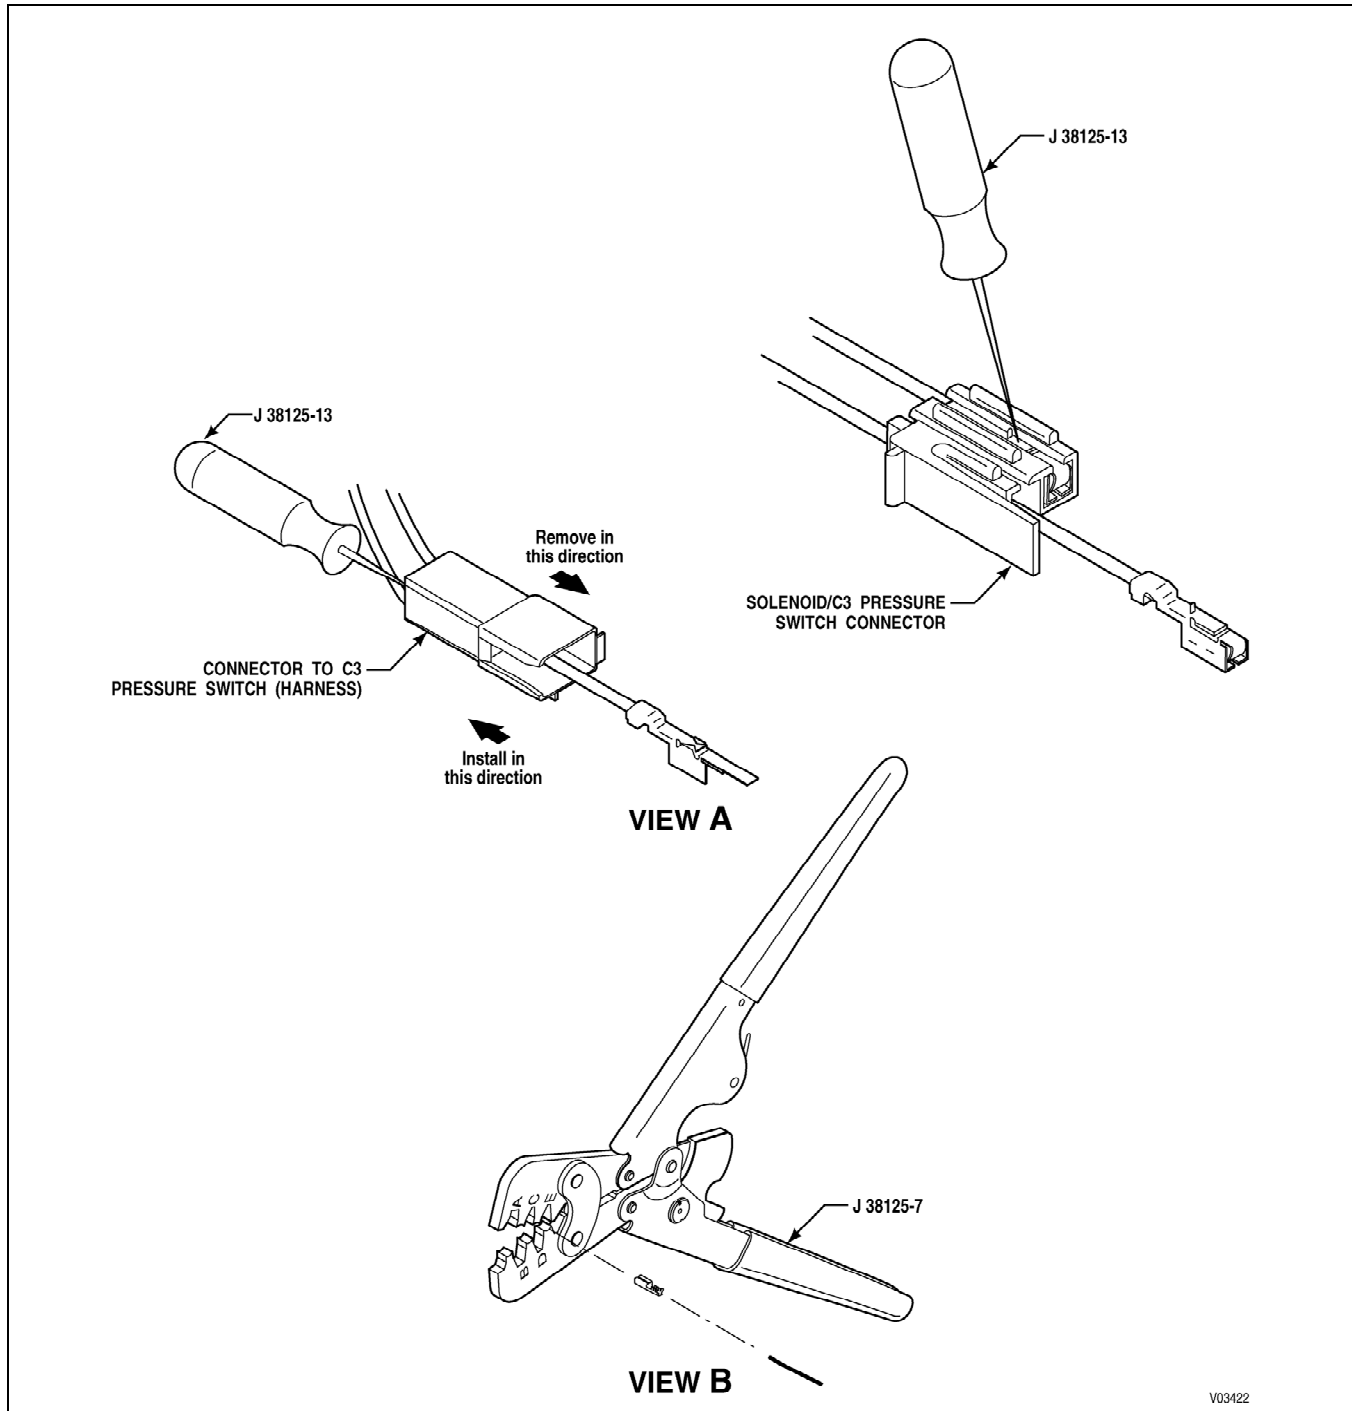

Figure G-15. Delphi-Packard Metri-Pack 280 Series Connectors—Pull-to-Seat (Internal Harness On/Off Solenoid and PS1 Pressure Switch)
1. Depress locktab on terminal (accessible in slot of connector) and push terminal out front of connector (refer to Figure G-15, View A).
2. Place core crimp portion of terminal on bed of anvil indicated and squeeze crimper enough to hold terminal from dropping (refer to Figure G-15, View B).